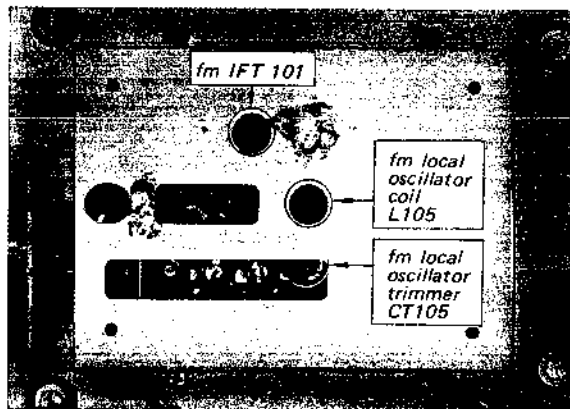
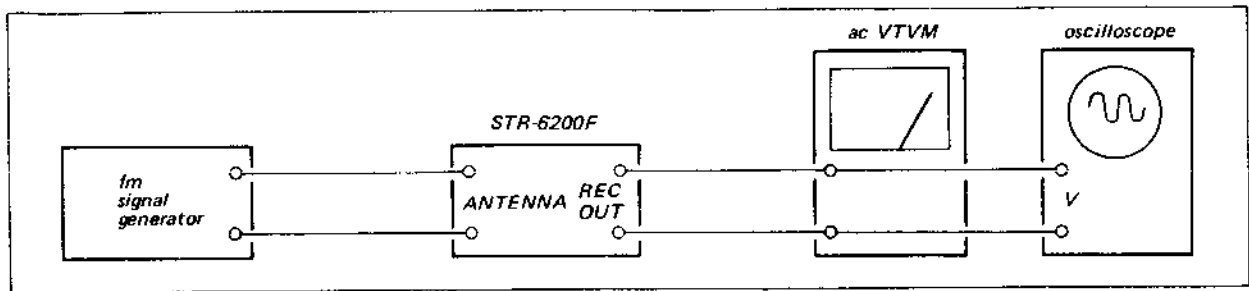

Fig. 3-3 Parts location
Fig. 3-4 Fm i-f, discriminator, muting and front end alignment test setup
1. With the equipment connected as shown in Fig. 3-4, set the signal-generator's controls as follows:
- FUNCTION (2) switch FM
3. Precisely tune the set to the SSG's carrier frequency then turn the core of transformer IFT101 and primary side of discriminator transformer IFT301 (bottom core) (see Figs. 3-3 and 3-6) with the alignment tool to obtain maximum output.
3. Connect the equipment as shown in Fig. 3-4.
2. Check the dial scale for a calibration accuracy of ± 100 kHz from the carrier frequency of the station. If the dial-accuracy deviation exceeds this limit, turn the local-oscillator coil L105 slightly as shown in Fig. 3-3 until optimum dial calibration is obtained.
3. Tune the receiver to the highest-frequency station in your locality. If the dial-calibration error is excessive, adjust local-oscillator trimmer CT105 (see Fig. 3-3) to obtain maximum calibration accuracy.
| 1. | Direct coupling | 87.5 MHz 400 Hz 30% Mod. 30 μ V (30 dB) | 87.5 MHz | REC OUT Jack (J606) | OSC coil L105 See Fig. 3-3 | Maximum VTVM reading |
| 2. | Same as above | 108 MHz 400 Hz 30% Mod. 30 μ V (30 dB) | 108 MHz | Same as above | OSC trimmer CT105 See Fig. 3-3 | Same as above |